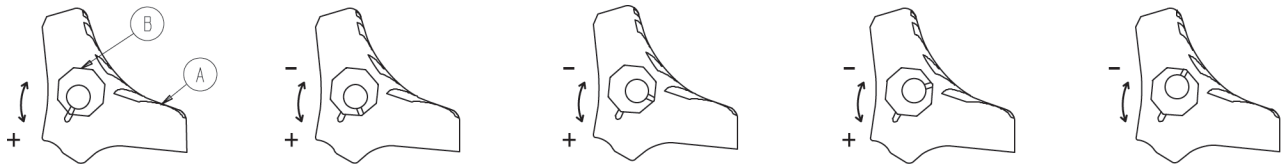

Figure 4 – Wheel locking force adjustment
1. Using the 5/32" hex wrench and 7/16" combination wrench or socket, remove the socket screw from the center of the lock pedal. Save the screw. The wheel lock is initially assembled with the pedal set at the minimum locking force. The marker on the pedal (A) is aligned with the marker on the octagonal sleeve (B) (Figure 4).
2. Remove the octagonal sleeve (B). Rotate the octagonal sleeve counterclockwise to increase the pedal locking force and clockwise to decrease the locking force. Insert the octagonal sleeve into the pedal.